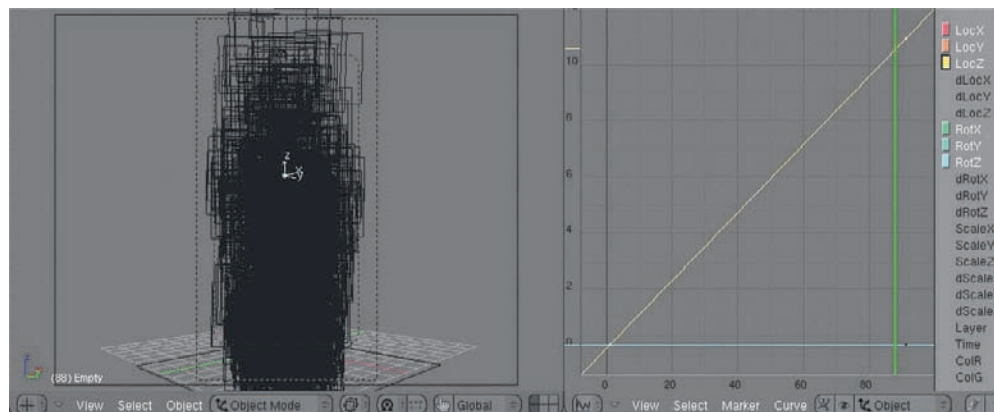

Figure 2.48 Keying the empty's location
14. If you render an animation now, you'll notice something slightly amiss with the flame and smoke. Although the particles move, the textures themselves remain static. This is easy to fix. You've already mapped the textures to the empty. To make the textures move, it is enough to simply animate the empty to move upward. Key the empty's location with the I key, advance a few frames, move the empty upward along the Z axis with the G key and the Z key, and key the location again. In the Ipo Editor, from the Curve menu choose Extend Mode > Extrapolation. You can adjust the angle of the LocZ curve easily by moving the curve control point around in Edit mode. You'll want the curve approximately as shown in Figure 2.48, although it's not necessary to be precise. Render your animation and adjust the speed of the empty as you think it looks best.